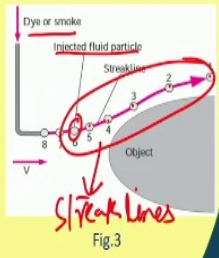

Fig.3
- Fig. 3 shows a **streakline** is formed by connecting all the circles into smooth curve.